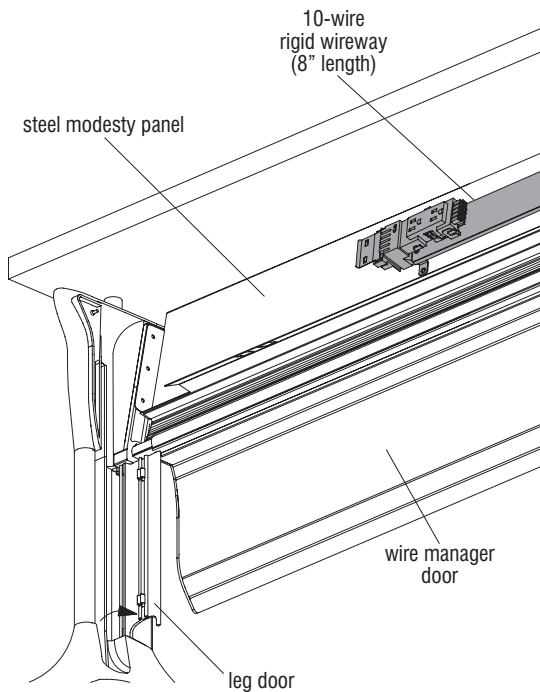

Figure 12
2. Mount the 8" rigid wireway onto the steel modesty panel using the supplied hardware (four 10-24 nylon stop nuts and four #10 x 1/2" screws) (Figure 12). The steel modesty panel has been pre-drilled.